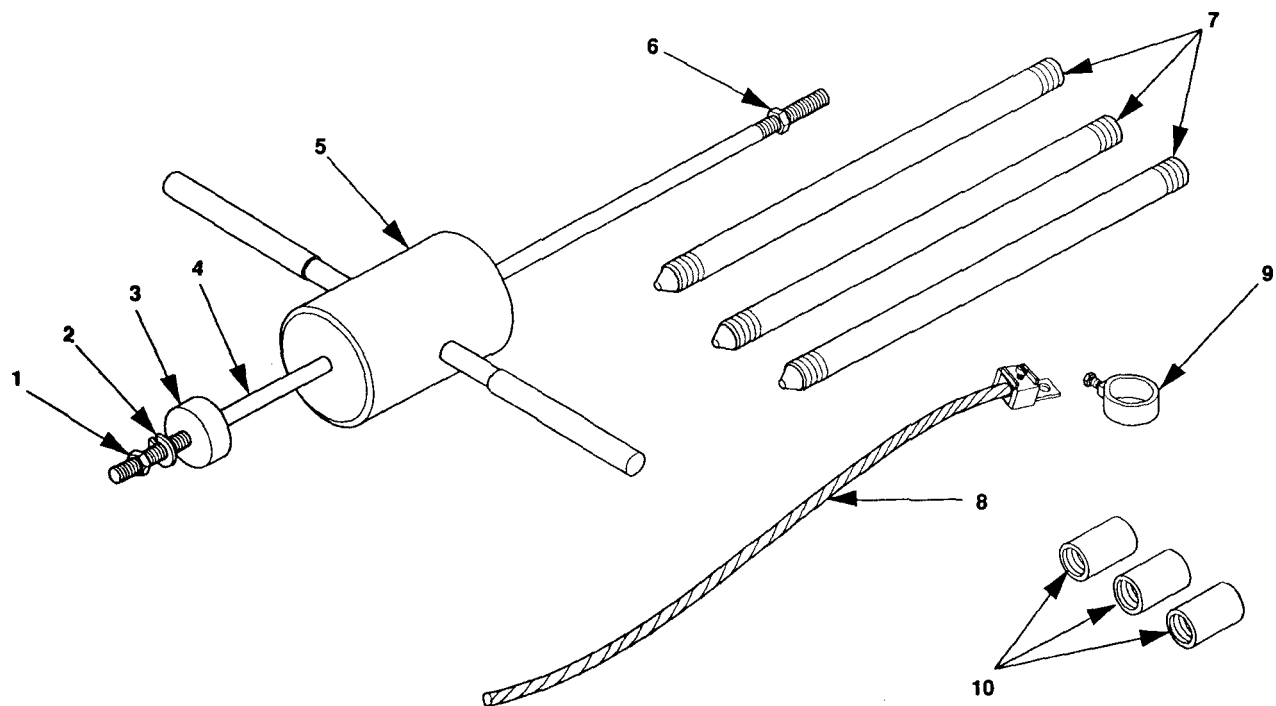

Figure 2-5. Ground Rod, Grounding Strap, and Slide Hammer.
- a. Remove ground rod, grounding strap, and slide hammer (figure 2-5) from accessory box. Perform assembly steps (1) through (4).
- (3) Position hammer (5) on rod (4). Install nut (6) and tighten to end of threads on rod (4).
- b. Connect ground rod coupling (10) to ground rod (7) and screw slide hammer into coupling (10). Make sure that slide hammer rod (4) seats on ground rod (7).
- d. Remove slide hammer assembly and install another section of ground rod (7).
- e. Install another coupling (10) and the slide hammer assembly. Drive ground rod down until new coupling is just above ground surface.
- g. Connect clamp (9) and ground cable (8) to ground rod (7) and tighten clamp screw.
- h. Connect ground cable (8, figure 2-5) as follows.
- (1) Remove nut (6, figure 2-5) from end of rod (4) and retain.
- (2) Remove hammer (5) from rod (4) and thread nut (6) on end of rod to prevent loss.
- (3) Store hammer (5) and rod (4) with assembled parts in accessory box.